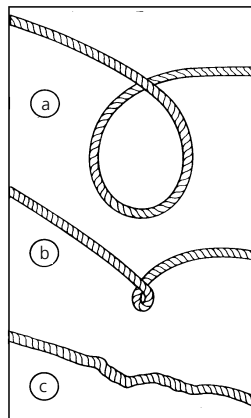

Figure 10
5. PREVENT KINKS BEFORE THEY OCCUR (See Figure 10).